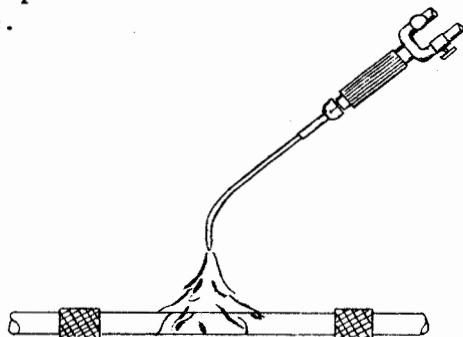
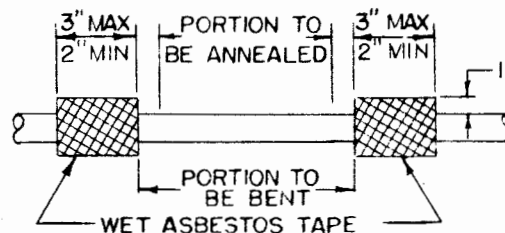

Figure 11-81. Annealing 1-5/8 Inch Outer Sheath by Torch
Figure 11-82. Placing Wet Asbestos Tape on Inner Conductor
(5) An ordinary gas flame, or any other clean flame, is then applied to the tubing between the asbestos tapes until it shows a dull red. See Figure 11-81.
(6) The inside of the line should then be swabbed out, first with a wad of steel wool attached to a cloth covered steel snake, then with a clean cloth to remove all loose foreign matter.
(7) Wet asbestos tape should be wrapped around the inner conductor between the pair of insulators adjacent to the ends of the portions to be bent to prevent annealing beyond the desired limits. See Figure 11-82.
(8) The 1/4 inch inner conductor for 7/8 inch coaxial line may be annealed by passing a sufficiently high current through it from either a welding generator or transformer. With this method it is unnecessary to wrap the line with asbestos tape; resulting in a considerable saving of time when a number of bends are to be made. The following data is taken from a typical annealing job on a 1/4 inch inner conductor.